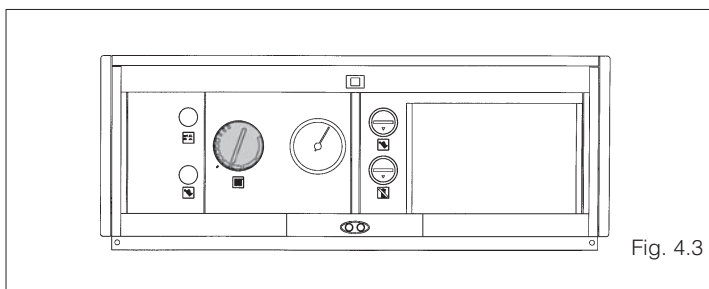

Fig. 4.3
- Adjust the boiler's temperature control to the desired temperature (operation not necessary if the boiler has been equipped with a temperature controller) (fig. 4.3)